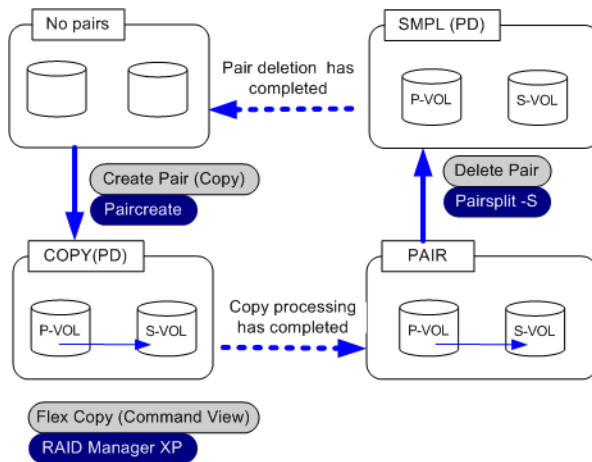

Figure 371 Transitions of Flex Copy pair status
- When you perform operations on the copy pair using RAID Manager XP, additional pair status values may occur that do not appear in Figure 371. This is because those operations correspond to Business Copy XP operations.